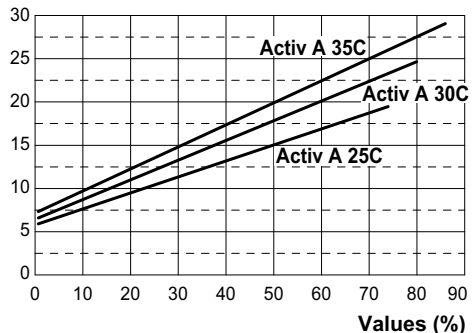
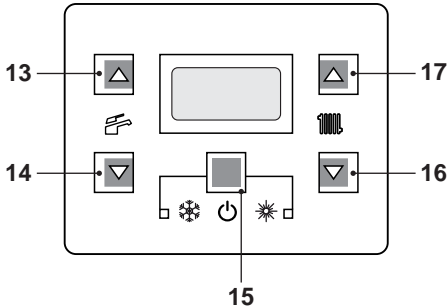
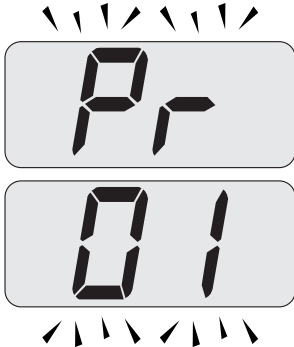
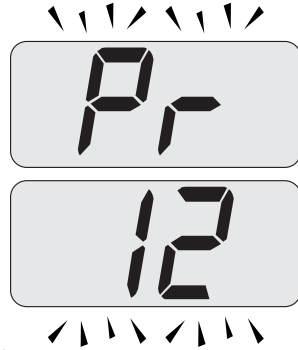

Fig. 7.40
Fig. 7.41
Fig. 7.42
Fig. 7.43
Refer to Fig. 7.40 and determine the correct Value appertaining to the output required for the central heating requirement.
- Enter the "programming mode" by pressing keys 15 - 16 - 17 (Fig. 7.41) for 10 seconds at the same time until the letters **Pr** that alternate with code **01** are displayed on the LCD display, indicating that "parameter 01" (Fig. 7.42) has been activated.
- Scroll the various parameters using keys 16 or 17 until the letters **Pr** that alternate with code **12** are displayed on the LCD display, indicating that "parameter 12" (Fig. 7.43) has been activated.
- Press keys 15 and 17 (Fig. 7.41) at the same time until the value of parameter 12 (74=Activ A 25C or 79=Activ A 30C or 86=Activ A 35C) is displayed on the LCD display (Fig. 7.44).
- It is possible to modify parameter using keys 16 or 17 (Fig. 7.41) (Refer to Fig. 7.40 and determine the correct Value appertaining to the output required for the central heating requirement.).
- By pressing key 15 (Fig. 7.41) confirmation of the inserted value is obtained.
- Press keys 15 and 16 (Fig. 7.41) at the same time to exit without changing the value (return to the parameters list Fig. 7.43)
- Press keys 15 - 16 - 17 (Fig. 7.41) at the same time for 10 seconds to exit the "programming mode".